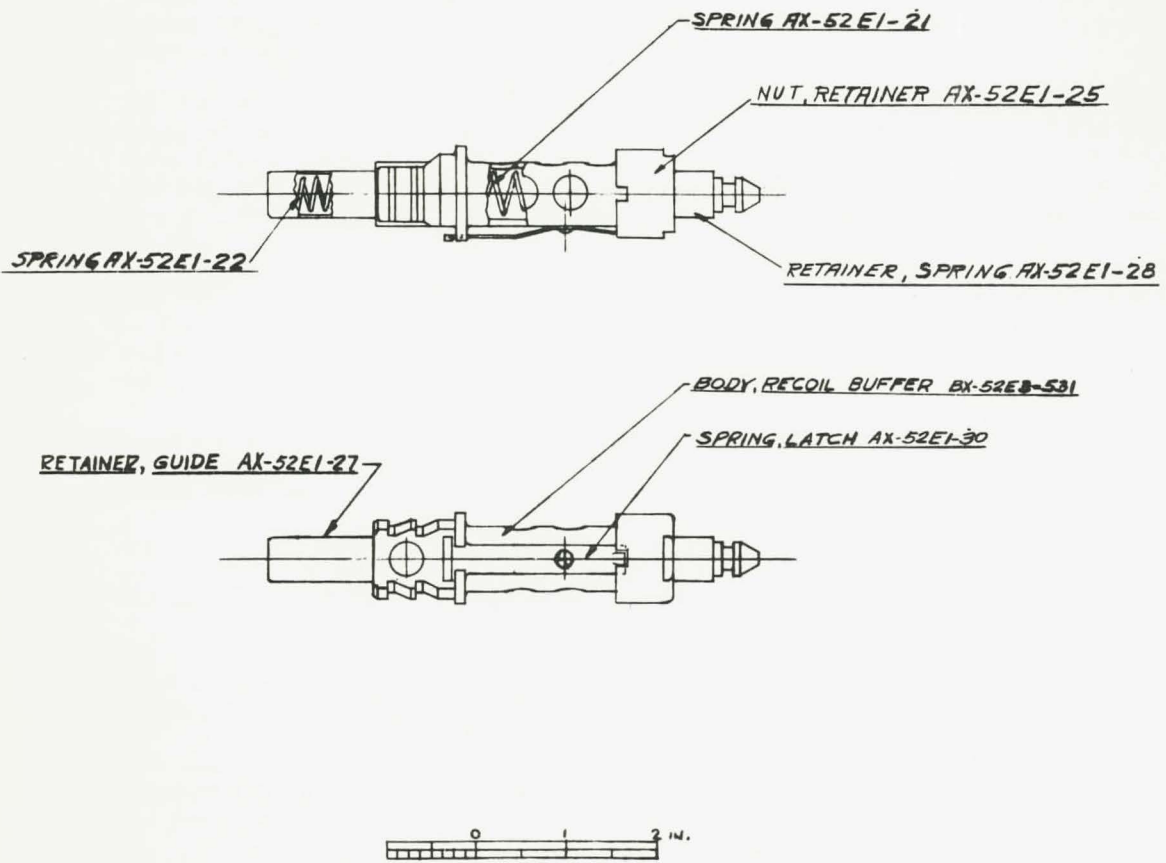

FIG. 1 - RECOIL BUFFER ASSEMBLY
- c. The shock from the operating rod during recoil is absorbed by the recoil buffer through its inner and outer recoil buffer springs, which are guided and retained within the recoil buffer body by means of the recoil buffer spring guide retainer, recoil buffer spring retainer, and recoil buffer retainer nut. The recoil buffer retainer nut is secured by threading it onto an external diameter of the recoil buffer body and prevented from loosening itself by a detent on the rear end of the recoil buffer latch spring. See Fig. 1, Page 5.
- a. Depress recoil buffer latch spring. See Fig. 1, Page 5.